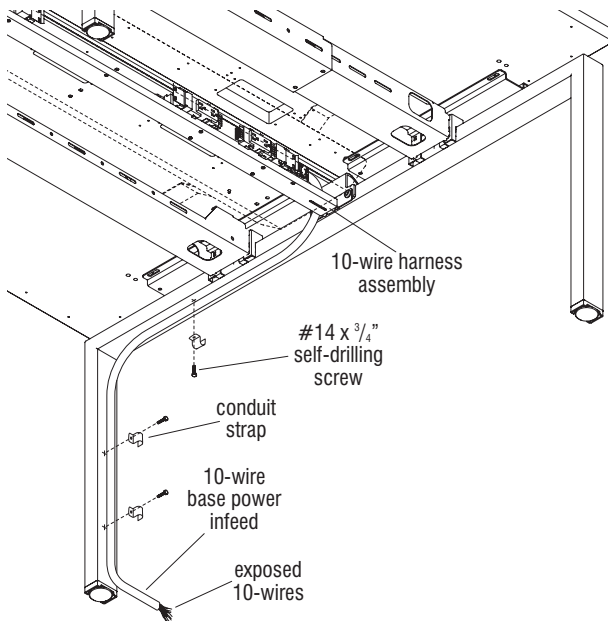

Figure 5 - Dual-Sided Benching - 10-Wire Base Power Infeed
1. Per the space-planning layout, determine the location for the 10-wire base power infeed to the benching system (Figures 5 & 6).
2. Plug the 10-wire infeed connector into the 10-wire rigid wireway (Figures 5 & 6).
3. Route the flexible conduit along the leg and mark the pilot holes where the straps will be installed. It may help to position the clamps over the flexible conduit on the leg to assist in marking the pilot holes (Figures 5 & 6).
4. Position the flexible conduit out of the way. Use a hammer and punch to mark the location, then drill pilot holes, using a #4 drill bit in the leg at each conduit strap mounting location (Figures 5 & 6).
5. Position the straps over the flexible conduit and secure to the leg using #14 x 3/4" self-drilling screws. Be careful to not over tighten (Figures 5 & 6).